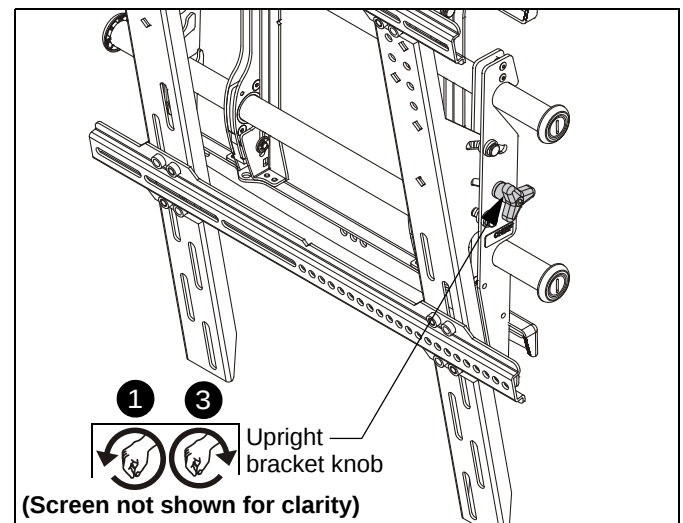

Figure 10
1. Turn upright bracket knobs to left to loosen tilt. (See Figure 10)
3. Lock at desired tilt by turning upright bracket knobs to right to tighten. (See Figure 10)